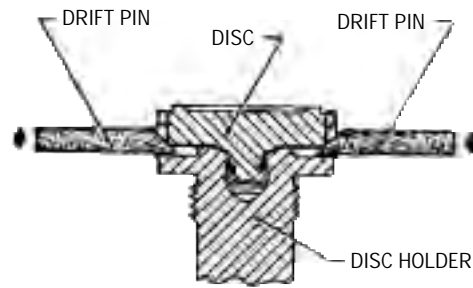

FIGURE 11
9. Using the Drift Pins as illustrated in Figure 11, remove the Disc from the Disc Holder. Use care to avoid scarring the bearing surface on the back of the Disc.